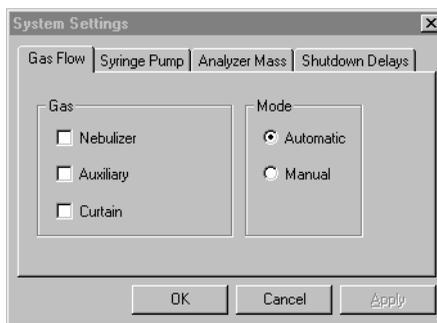

Figure 2-6 Gas Flow Page
1. In the Instrument Control Panel, select **System Settings** from the Instrument menu, then click the **Gas Flow** tab to display the Gas Flow page (Figure 2-6).